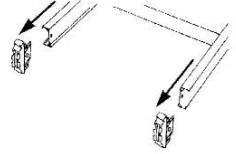

figure 2
2. Offer stabiliser up to slots in stile and align 4 holes. Fix in place with four M6 x 55mm bolts, four 6mm Ø metal washers and four M6 lock nuts. (fig. 2)
2. Unscrew fixing components and remove tips from top of front ladder section. Set aside. (fig. 2)